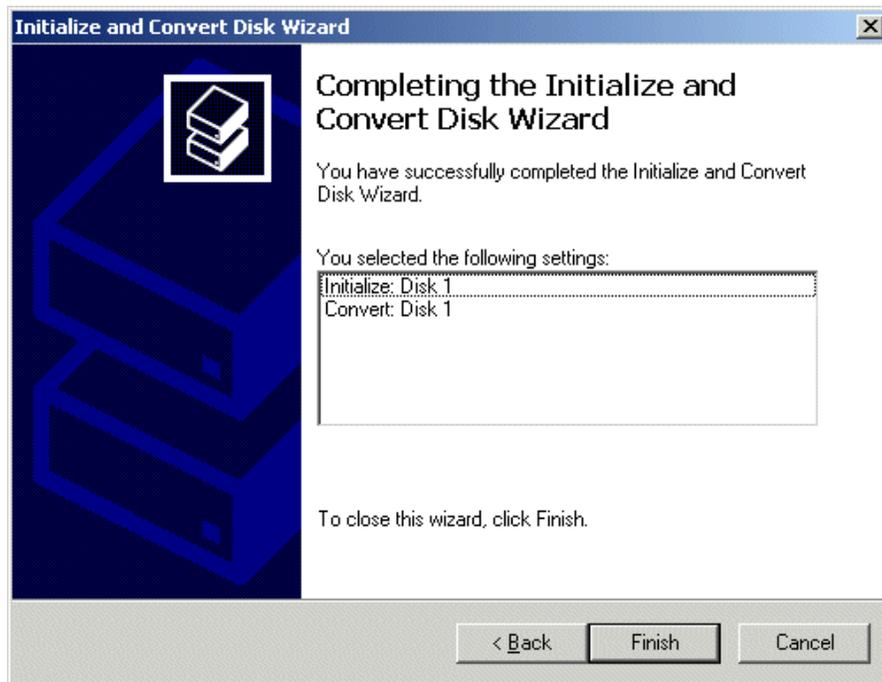

Figure 2-20. The Completing the Wizard dialog
- 20) Click the **Next** button to be presented with the **Completing the Wizard** screen as shown in Figure 2-20, and then click the **Finish** button to perform the operations and exit the wizard.